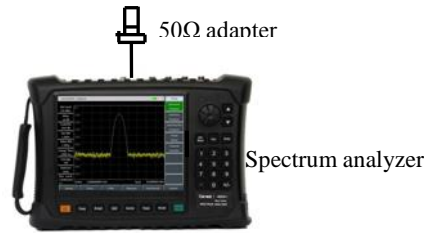

Fig. 12-14 Setting for Residual Response Test
1) Connect the test instruments as shown in Fig. 12-14. Connect the 50Ω adapter top the signal input port of the spectrum analyzer and set the spectrum analyzer as follows: